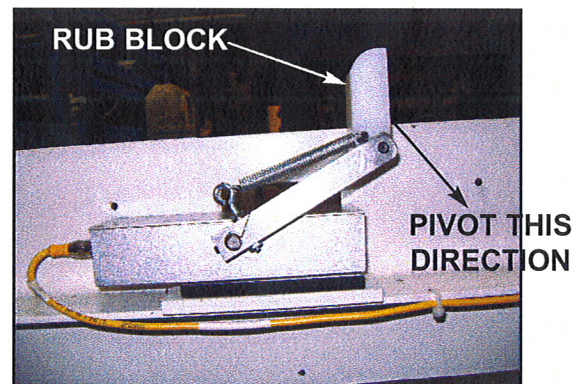

Figure 14
4. If arm adjustment is needed, loosen nut by eyebolt and set screw in end of bar. Do not go much past vertical with white rub block. It must be able to pivot down past end of bar. If it pivots the wrong direction, it will jam device. See Figure 14.